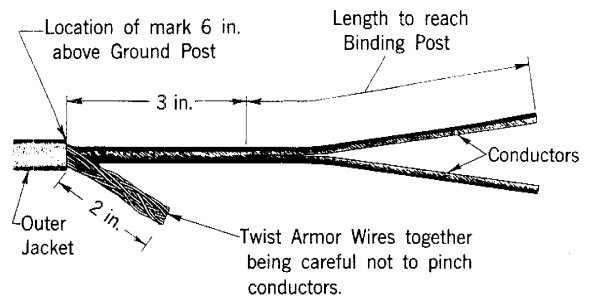

Fig. 8 — Prepare Ends for More than Two Wires
- (c) Where there are more than two underground wires, pull the slack from them and mark the outer jacket about 6 inches above the ground post. Prepare the ends of the third and fourth wires as shown in Fig. 8.